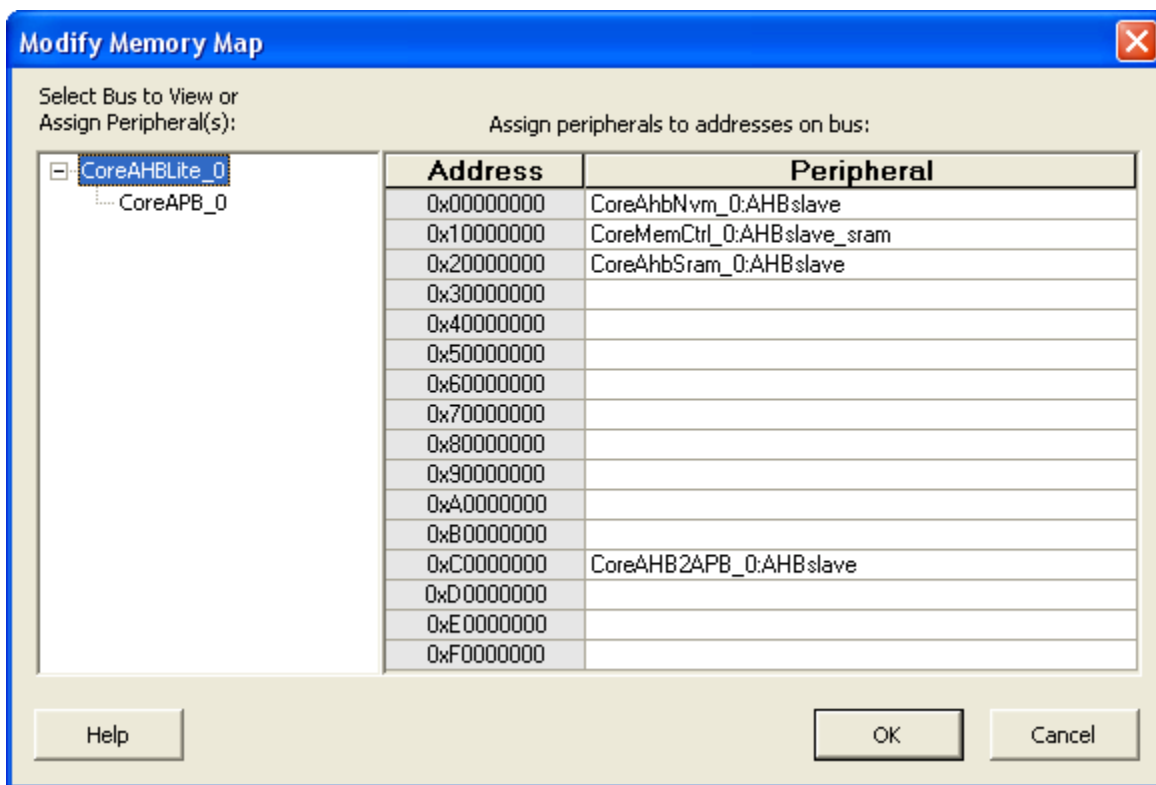
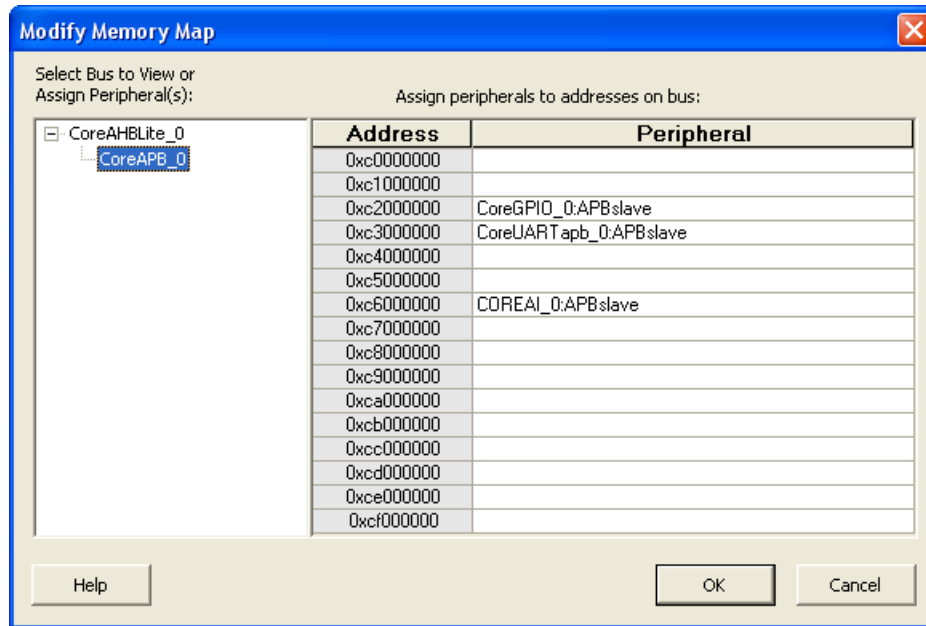

Figure 3-17 • Modify Memory Map for CoreAHBLite_0
Figure 3-18 • Configure Memory Map for CoreAPB_0
1. Perform AutoConnect (right-click on canvas and choose **Auto Connect**). The Modify Memory Map window will open (Figure 3-17).
2. Click on **CoreAHBLite_0**. Configure the memory map for the CoreAHBLite bus as shown in Figure 3-17 by following the steps below for each peripheral that you need to move.
3. Click on **CoreAPB_0**. Configure the memory map for the CoreAPB bus as shown in Figure 3-18 on page 3-30 using the same steps as above.
Take careful note to configure Memory Map dialog box as shown in Figure 3-17 on page 3-29 and Figure 3-18 as this directly defines the subsystem memory map and has a direct impact on the Cortex-M1 software code.